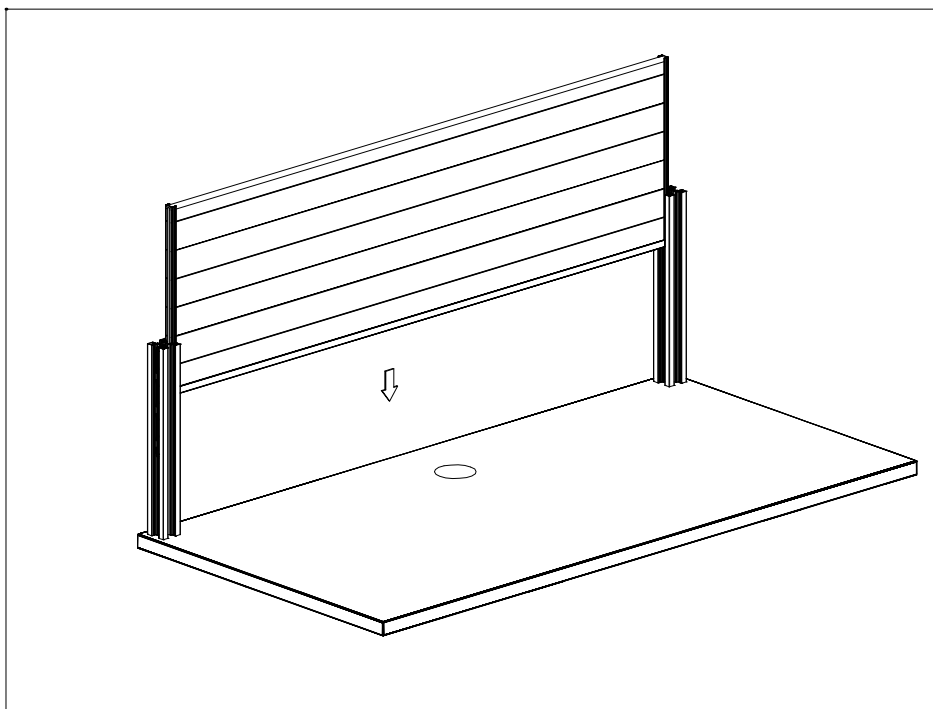

FIGURE 3
3. Insert the screen down the screen post until it bottoms out, (Figure 3).